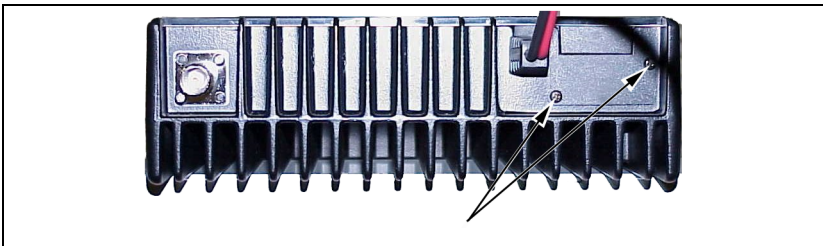

Figure 5 – Removing Plastic Cover
1. Remove the two Phillips screws holding the plastic cover in place, from the back of the radio, see Figure 5.